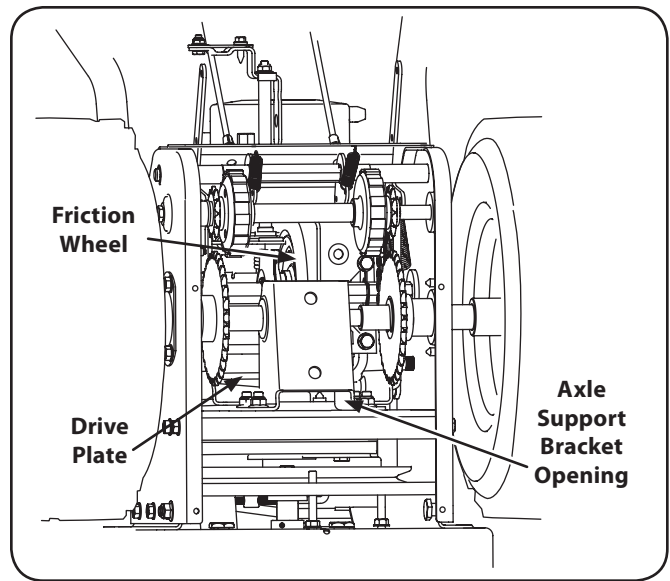

Figure 6-7
3. With the wheel drive control released, check if there is clearance between friction wheel and drive plate in all positions of the shift lever. See Figure 6-7.
4. With the drive control lever engaged, check if the friction wheel solidly contacts the drive plate. See Figure 6-7. If not, adjust as follows: